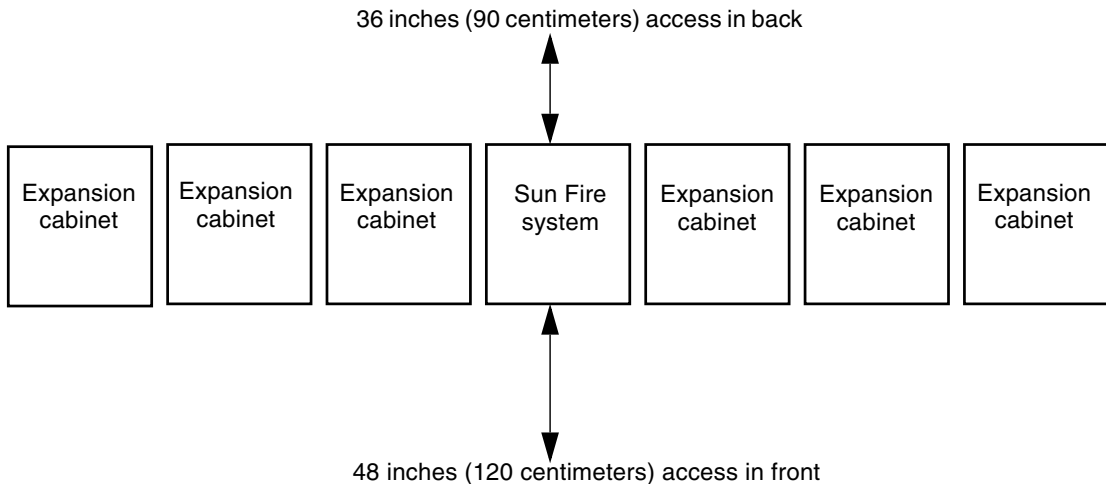

FIGURE 1-1 Sun Fire System Access Areas—Top View
- Sun Fire 6800 systems and rackmounted systems require approximately 48 inches (120 centimeters) of space in front and 36 inches (90 centimeters) in back (FIGURE 1-1) for access by service personnel.